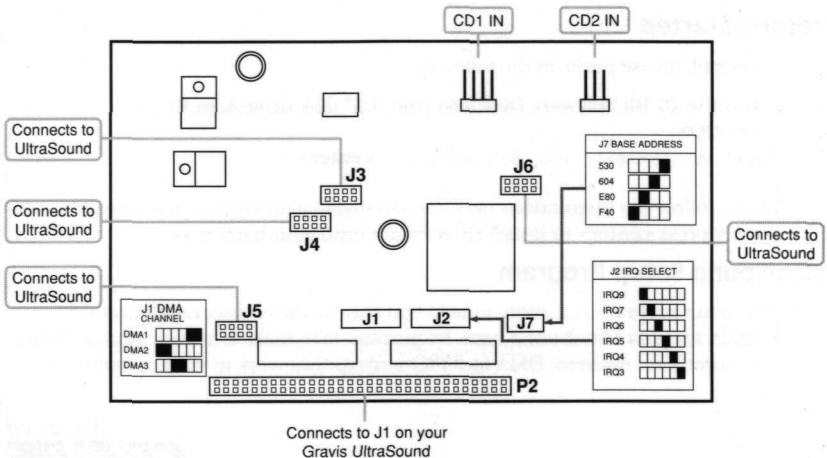

Fig. 2 - The 16-bit card and connections
Refer to Figure 2 and the charts printed on the 16-bit card to see how to set the jumpers for the available choices.
- » Turn over the card and firmly connect the P2 connector on the 16-bit card to the Ultrasound's J1 connector (see Figure 2).